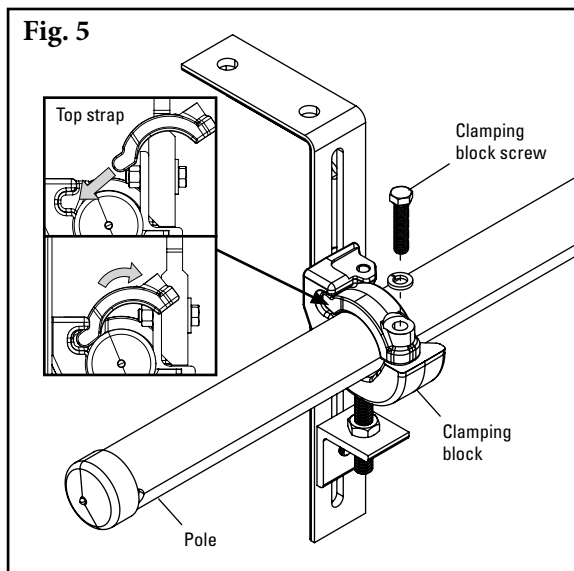

Fig. 5
5. **Install the pole.** Remove the clamp block top strap on the access side of the conveyor, and on the opposite side loosen the clamp block bolt. Slide the pole across and into the loosened clamp block, place near end of pole in bottom section of clamp block (Fig. 5). Replace the top strap on the clamp block, center the blades on the belt and tighten both clamp block bolts finger tight.